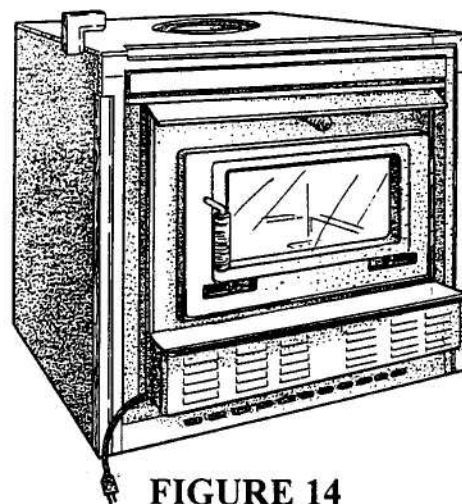

FIGURE 14
1. Mount top and side strips with self-tapping brass screws provided. Leave approximately 1" at top edges of trim to be covered by corner brass (see figure 14). If needed, strips can easily be cut with a hacksaw.